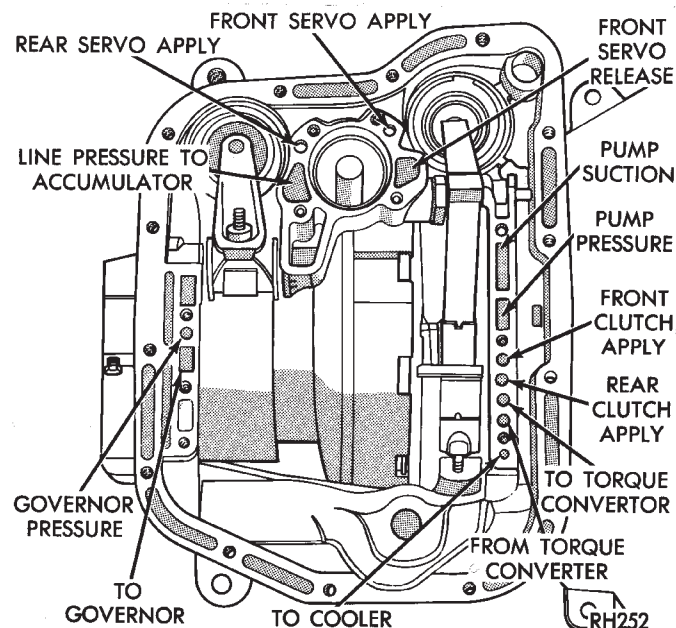

Fig. 8 Air Pressure Test Passages
The servo and clutch apply passages are shown in Figure 8.
(1) Place one or two fingers on the clutch housing and apply air pressure through front clutch apply passage (Fig. 8). Piston movement can be felt and a soft thud heard as the clutch applies.
(2) Place one or two fingers on the clutch housing and apply air pressure through rear clutch apply passage (Fig. 8). Piston movement can be felt and a soft thud heard as the clutch applies.
(3) Apply air pressure to the front servo apply passage. The servo rod should extend and cause the band to tighten around the drum. Spring tension should release the servo when air pressure is removed.
(4) Apply air pressure to the rear servo apply passage. The servo rod should extend and cause the band to tighten around the drum. Spring tension should release the servo when air pressure is removed.